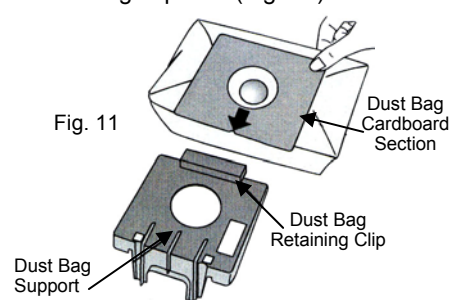

Fig. 11
- Holding the dust bag retaining clip, insert the rear part of the cardboard section of the dust bag into the plastic support. Once that rear part is in, release the retaining clip to lock the dust bag in place. (Fig. 11)